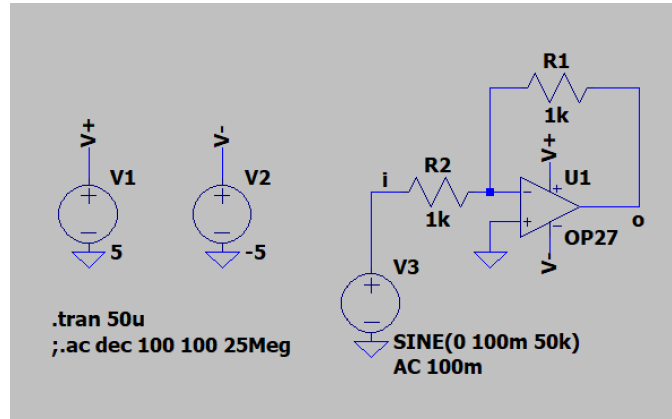

Fig.1
- Inverting buffer (see example in Fig.1)